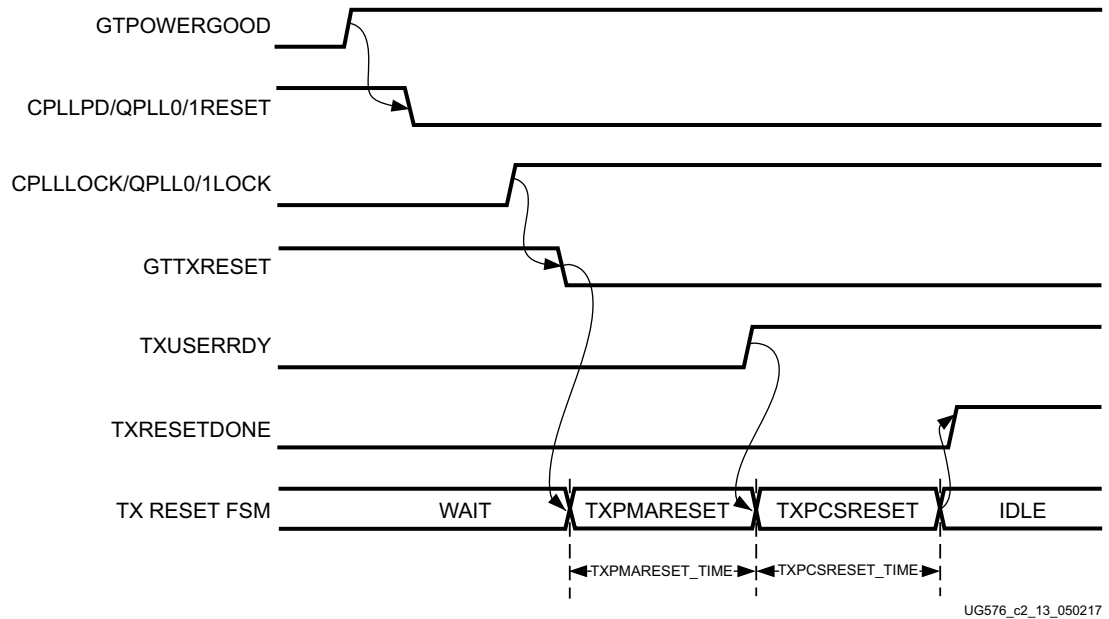

Figure 2-20: GTH Transmitter Initialization after Configuration
3. Assert QPLLRESET, CPLLDP, and GTTXRESET following the reset sequence described in Figure 2-20.
**RECOMMENDED:** Use the associated PLLLOCK from either CPLL or QPLL to release GTTXRESET from High to Low as shown in Figure 2-20. The TX reset state machine waits when GTTXRESET is detected High and starts the reset sequence until GTTXRESET is released Low.